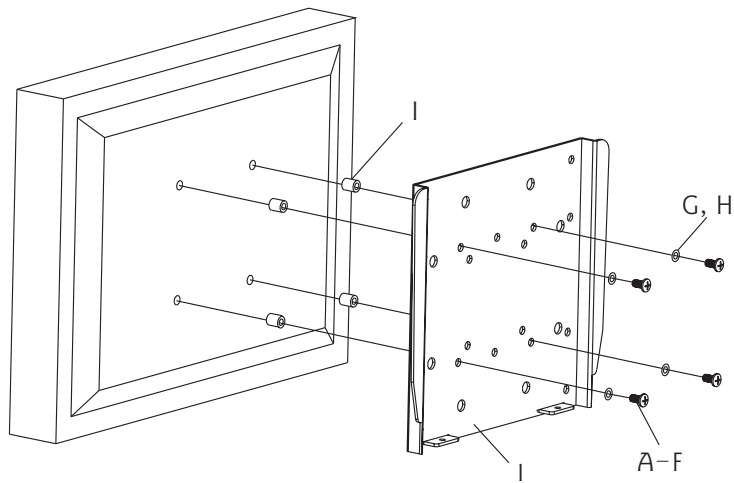

Fig 4
Attach Monitor Plate to back of the monitor with 4mm, 5mm, or 6mm mounting Screws. (A-F) (Fig. 4) Check the monitor's owners manual for correct size screws to use.
Note: Some monitors with recessed mounting lands, will require the use of Spacers (I), as shown in Fig. 4.